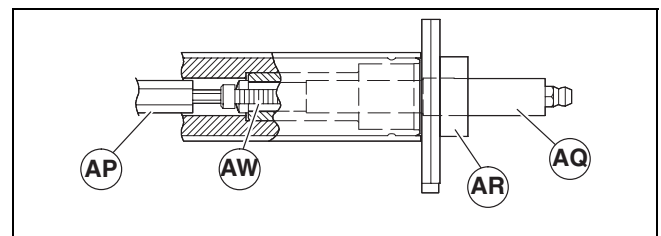

Figure 29
3. Insert small end of hex key wrench extension tool (Figure 29, item AP) into pulley end opposite the outboard drive shaft (AQ) and tighten pulley screw (AW) to 20 in/lb. Back off screw exactly 1/2 turn (180°).